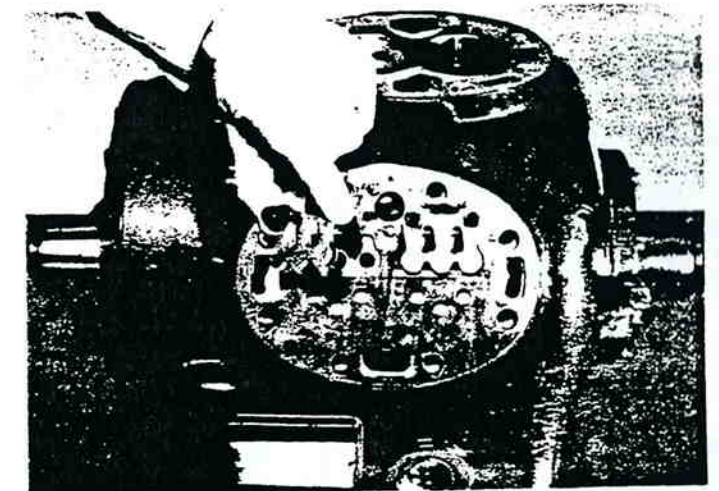

Figure 16-46: Installing Discharge Valve and Stop
27. Install discharge valve and discharge valve stop with cap screws and lock washers (figure 16-46). Tighten cap screws to 16-20 lb.-ft. (21.7-27 Nm) torque.